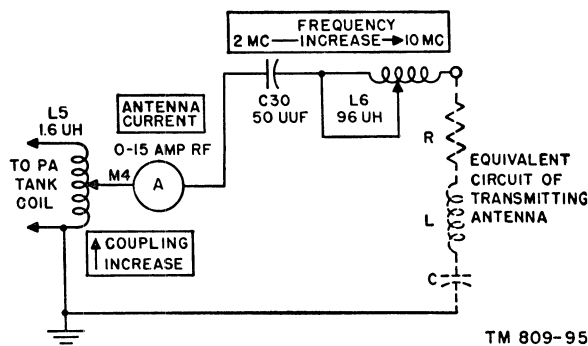

Figure 45. Antenna tuning unit BC-939-B with range switch in LONG WIRE position, schematic diagram.
d. Figure 45 is a functional schematic diagram of the tuning unit with switch SW9 set to LONG WIRE and a long-wire antenna connected to the unit. The antenna may be either capacitive or inductive depending on the length of the wire and frequency used. The net reactance is made equal to zero by varying the movable tap of the low-frequency loading coil L6. Vacuum-type capacitor C30 provides the necessary capacitance when the reactance of the antenna is inductive because of antenna wire length and operating frequency. ANTENNA CURRENT meter M4 indicates rf current flowing in the series circuit of the antenna and antenna loading circuit. Rf current is maximum when the antenna is tuned to resonance with the transmitter frequency by the antenna loading circuits in the antenna tuning unit.